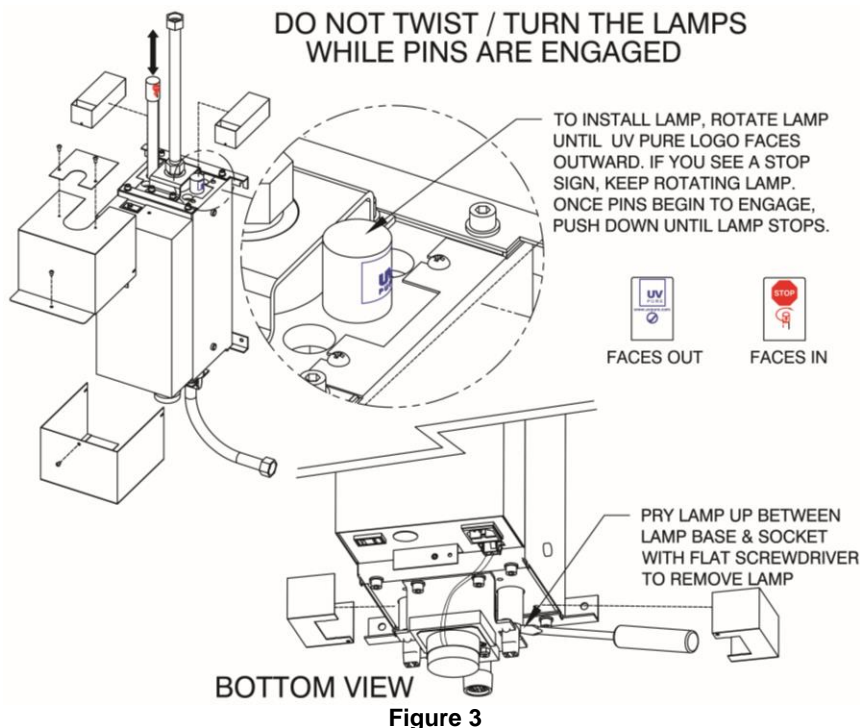

Figure 3
The lamps can be replaced in a few minutes. Draining the unit is not required. See Figure 3.
Step 3: Remove the top and bottom UV Light Shields. Slowly lift the old lamps out of the unit. **Do not twist the lamps when they are installed.** For assistance in this task, use a flat screwdriver and pry the lamps between their base and the socket to disengage the pins (see Figure 3). Dispose of the old lamps in the same way as you would dispose of ordinary fluorescent tubes. Note that old lamps should be disposed of at a household waste management depot or transfer station; contact your local recycling and waste management authority for proper disposal procedures in your area.
Step 4: Install the new lamps into the unit, being careful not to touch the bulb. Ensure that the lamps are aligned with the “Stop Sign” printed on the top ceramic facing inward (towards quartz sleeve). If you can see the stop sign, the lamps are backward (See Figure 3).